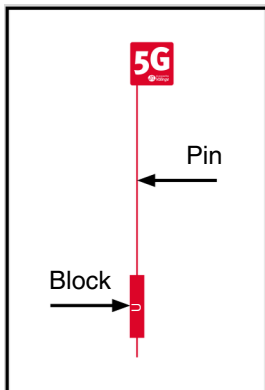

Figure 1
- Once a plank has been locked into position, it cannot be removed by hand. To release it, use the 5G dismantling pin together with the guiding block (Fig. 1).